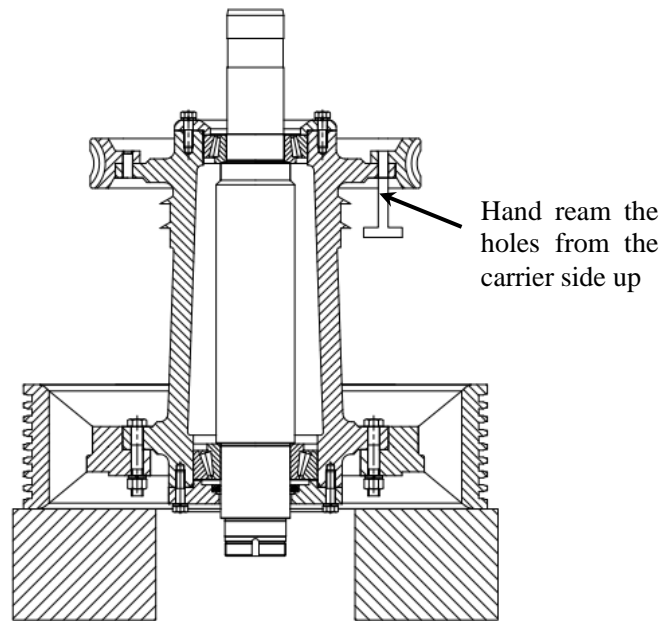

Figure 35 Ring gear replacement
5. Allow the gear to cool completely, then hand ream the hole from the carrier side up. See Figure 35.